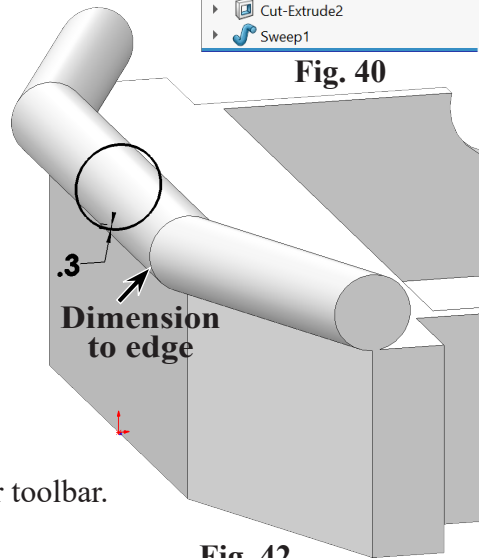

**Fig. 41**
Step 2. Click **Circle**  (S) on the Sketch toolbar.
Step 3. Sketch **circle at centerpoint of horizontal section of hinge Sweep1**, **Fig. 41**.